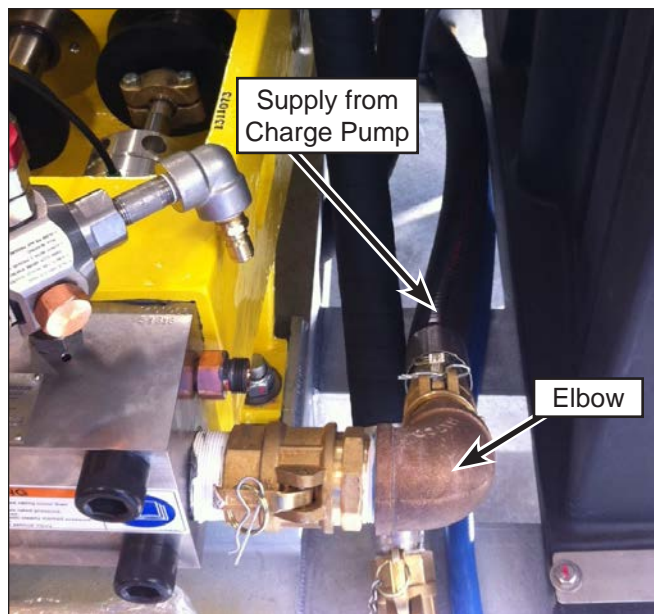

Figure 41: Supply Hose from Charge Pump.
1. Remove the supply hose (Figure 41) (supply from charge pump) from the suction elbow fitting on the 15K/20K manifold.